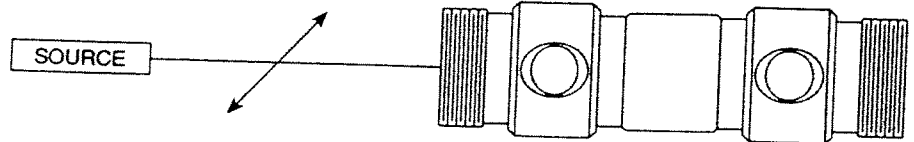

Figure 2.3 — Variable Attenuator
- d) Align your source or input polarizer so that the polarization axis is horizontal. (see figure 2.3)